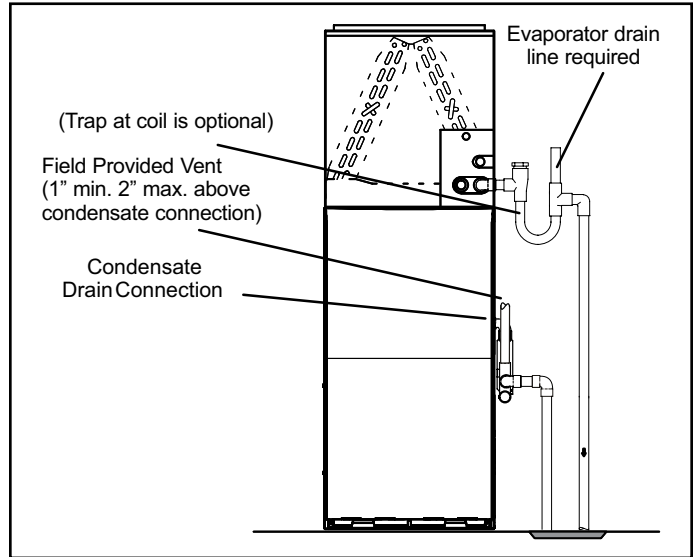
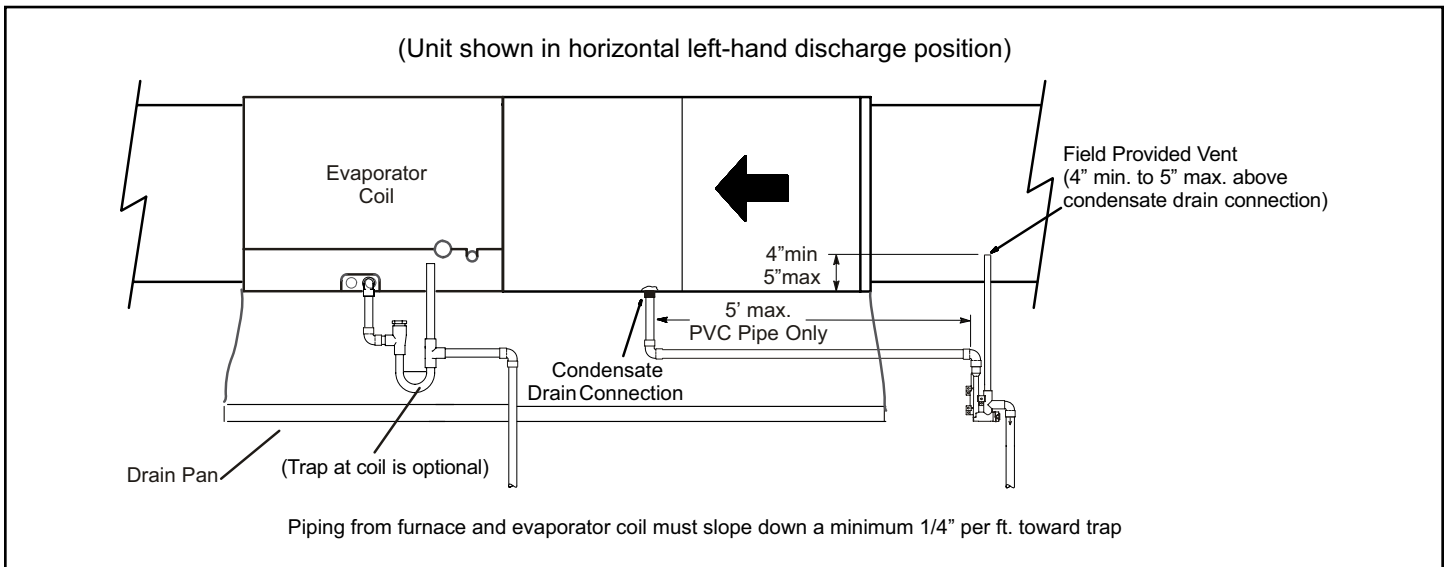
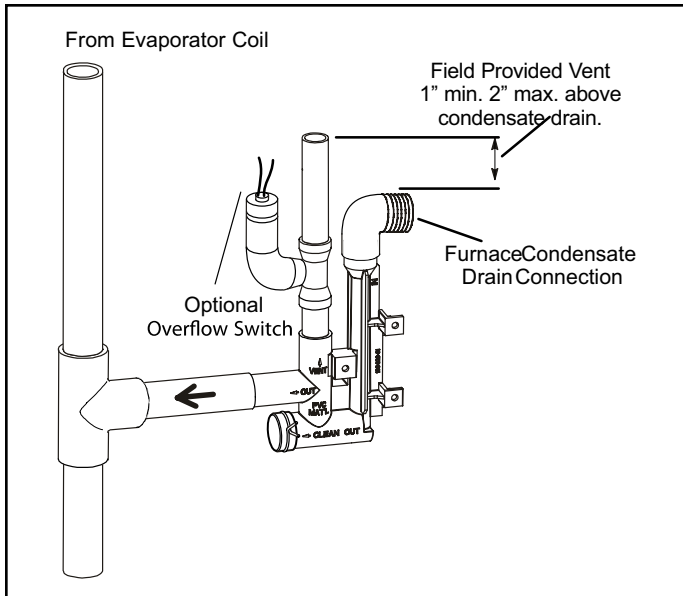
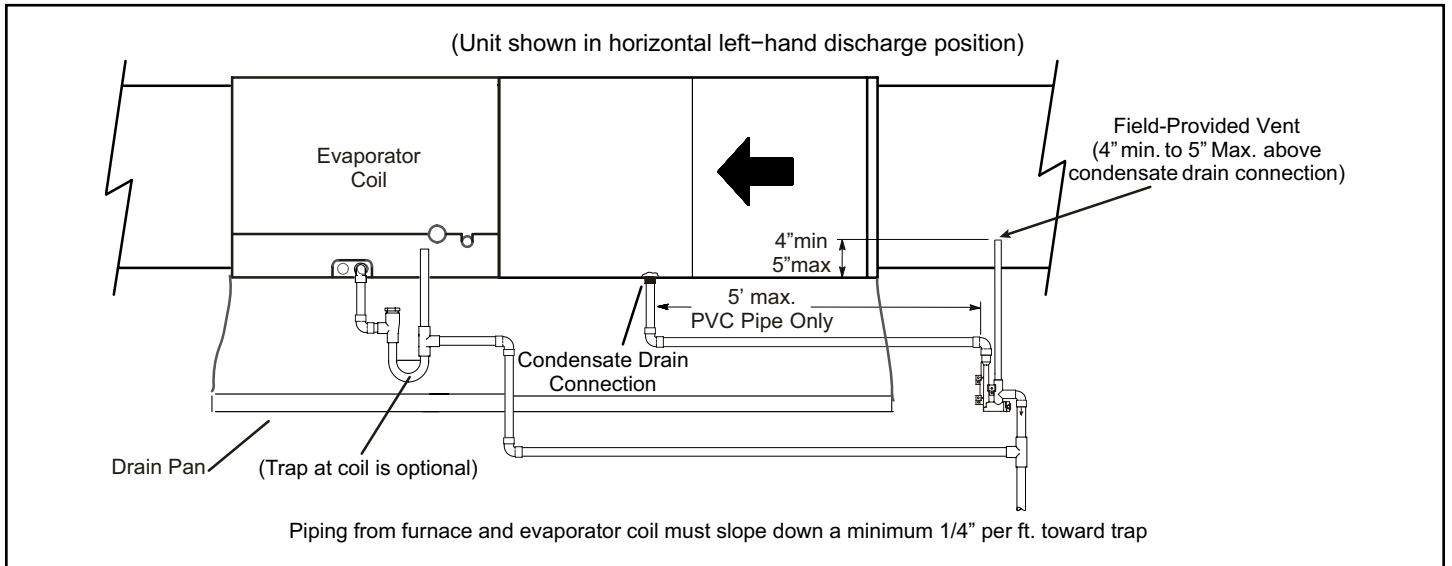

Figure 38. Furnace with Evaporator Coil Using a Separate Drain
Figure 39. Furnace with Evaporator Coil Using a Separate Drain
Figure 40. Condensate Trap With Optional Overflow Switch
Figure 42. Furnace with Evaporator Coil Using a Common Drain
5. Figure 38 and Figure 39 show the furnace and evaporator coil using a separate drain. If necessary the condensate line from the furnace and evaporator coil can drain together. See Figure 40 through Figure 42.
Upflow furnace (Figure 38) - In upflow furnace applications the field provided vent must be a minimum 1" to a maximum 2" length above the condensate drain outlet connection. Any length above 2" may result in a flooded heat exchanger if the combined primary drain line were to become restricted.
Horizontal furnace (Figure 39) - In horizontal furnace applications the field provided vent must be a minimum 4" to a maximum 5" length above the condensate drain outlet connection. Any length above 5" may result in a flooded heat exchanger if the combined primary drain line were to become restricted.